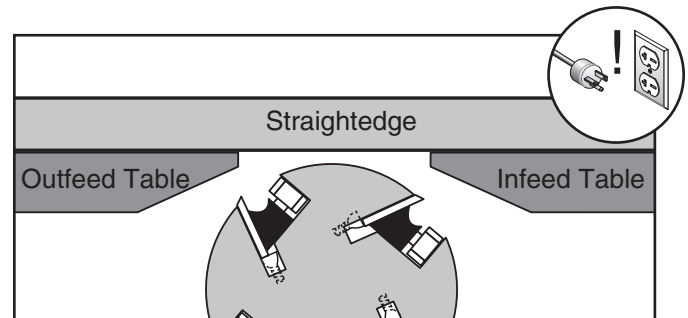

Figure 47. Infeed and outfeed tables set evenly (knife-style cutterhead shown).
3. Rotate cutterhead so knives/inserts will not interfere, then place straightedge on infeed and outfeed tables and adjust infeed table even with outfeed table, as shown in **Figure 47**.